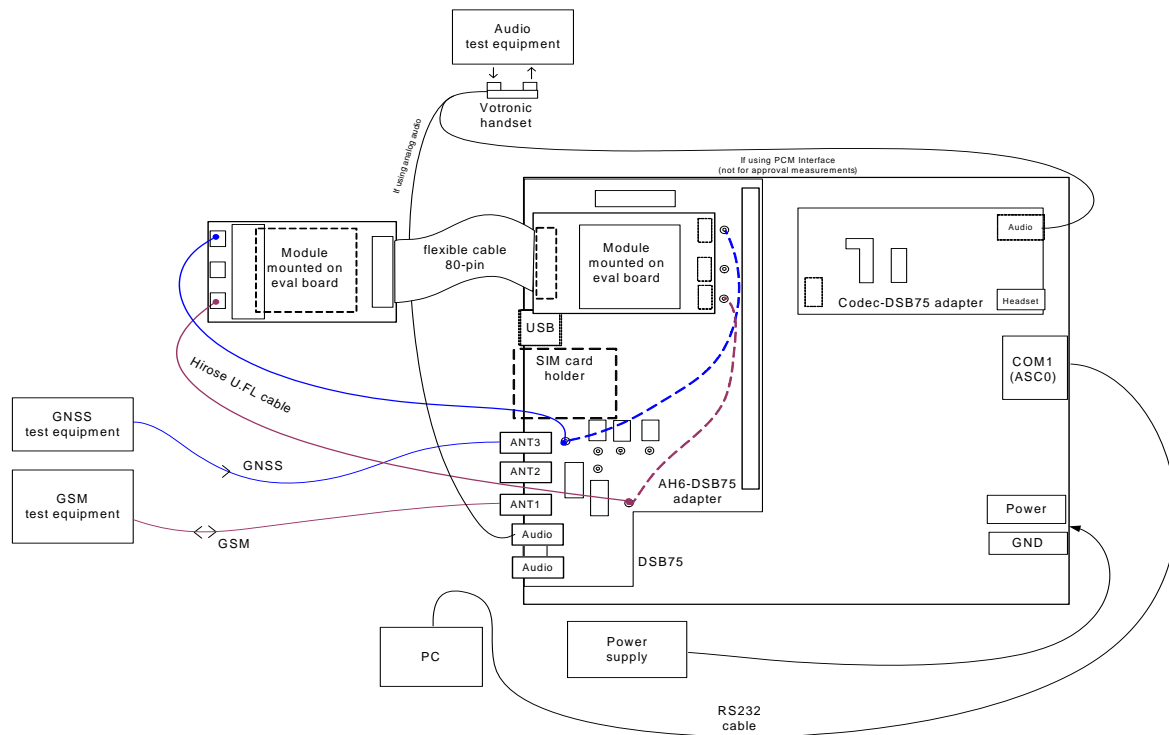

Figure 64: Reference equipment for Type Approval
1. For RF performance tests a mini-SMT/U.FL to SMA adapter with attached 6dB coaxial attenuator is chosen to connect the module directly to the GSM/UMTS/GNSS test equipment instead of employing the SMA antenna connectors on the BGS8-DSB75 adapter as shown in Figure 64. The following products are recommended:
5.3	Revised Figure 64 showing reference approval design.